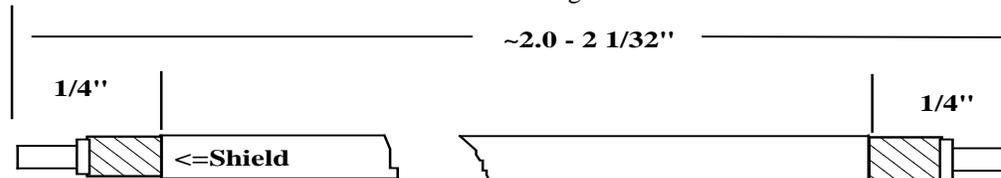

Figure 6 Cable shown broken for clarity
- Prepare the common output coaxial cable as follows: (See Figure 6)
2. Prepare two pieces of RG/188 coax, one as shown in Figure 6 of the DEM assembly documents. The other should be prepared as shown in Figure 6 with the exception that the cut length should be 3 1/8"